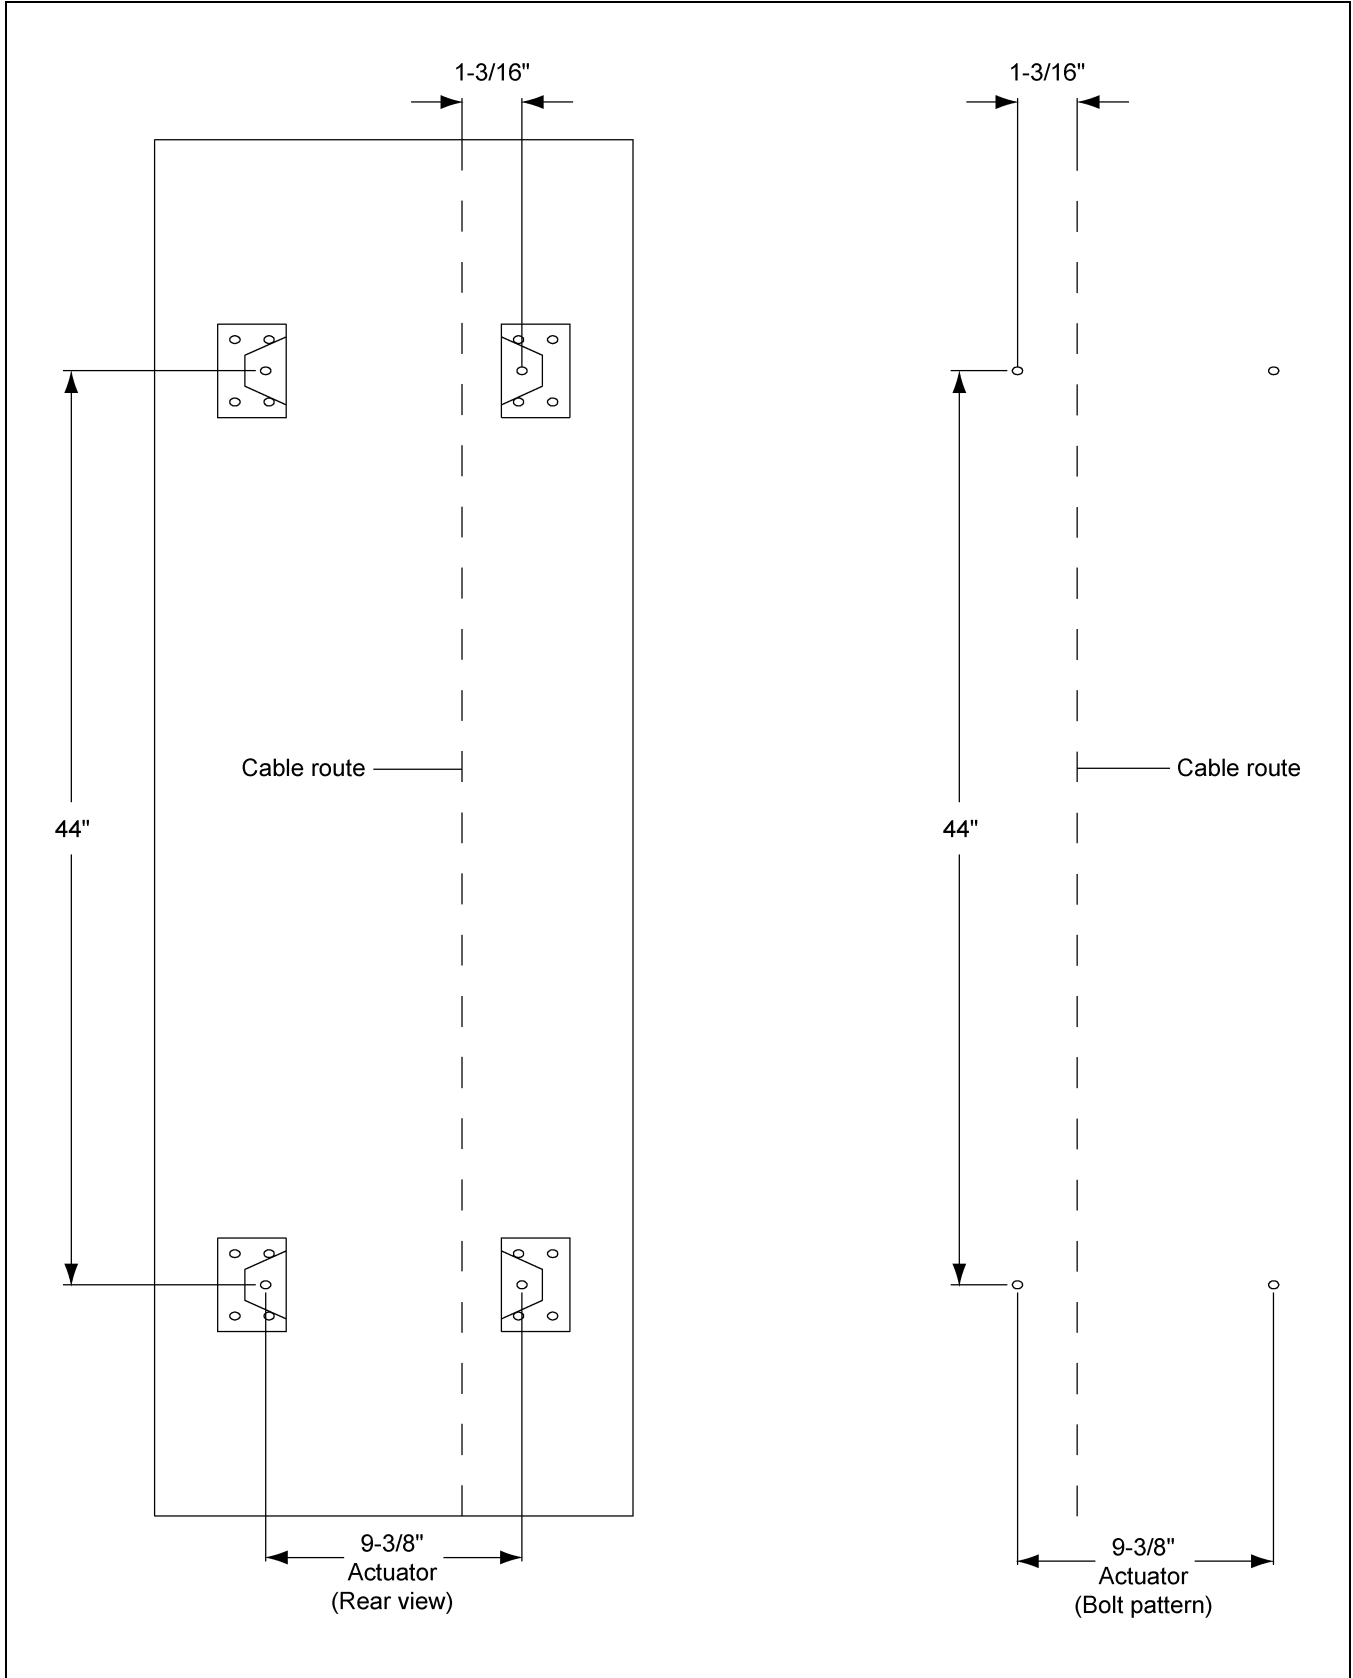

Figure 3G Bolt Pattern to Drill Holes for the Actuator Control Box
4. Use the pattern in *Figure 3G on Page 16* to drill holes for the actuator control box.
6. Use four (4) 5/16" x 1-1/4" bin bolts and washers with bolt heads to the inside of the bin.